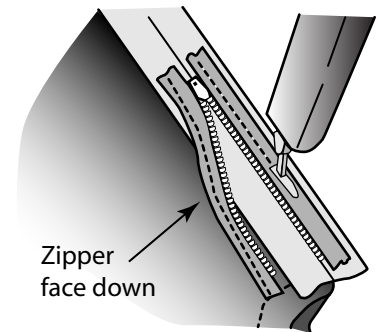

Figure 5b
3. Open the zipper and place it face down on the underlap portion of the seam allowance (Figure 5b), positioning top of zipper teeth 1 inch down at the top of the opening (5/8-inch seam plus 3/8 inch for a fastener). Place the zipper teeth alongside the seam line with zipper open. Stitch through the zipper tape and the seam allowance from the bottom to the top in the center of the tape.